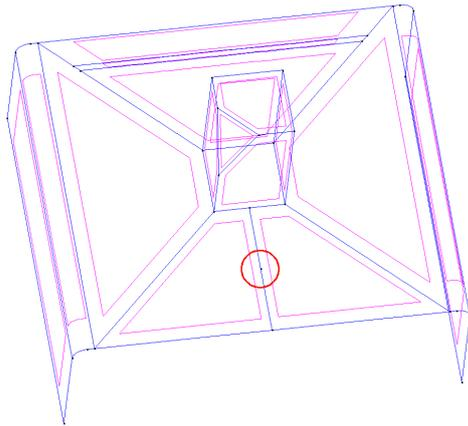

Figure 4. Geometry of the model. The point around which the mesh will be concentrated.
- 2 . Select the point indicated in Figure 4. Press **ESC** ⁴ to indicate that the selection of points is finished.